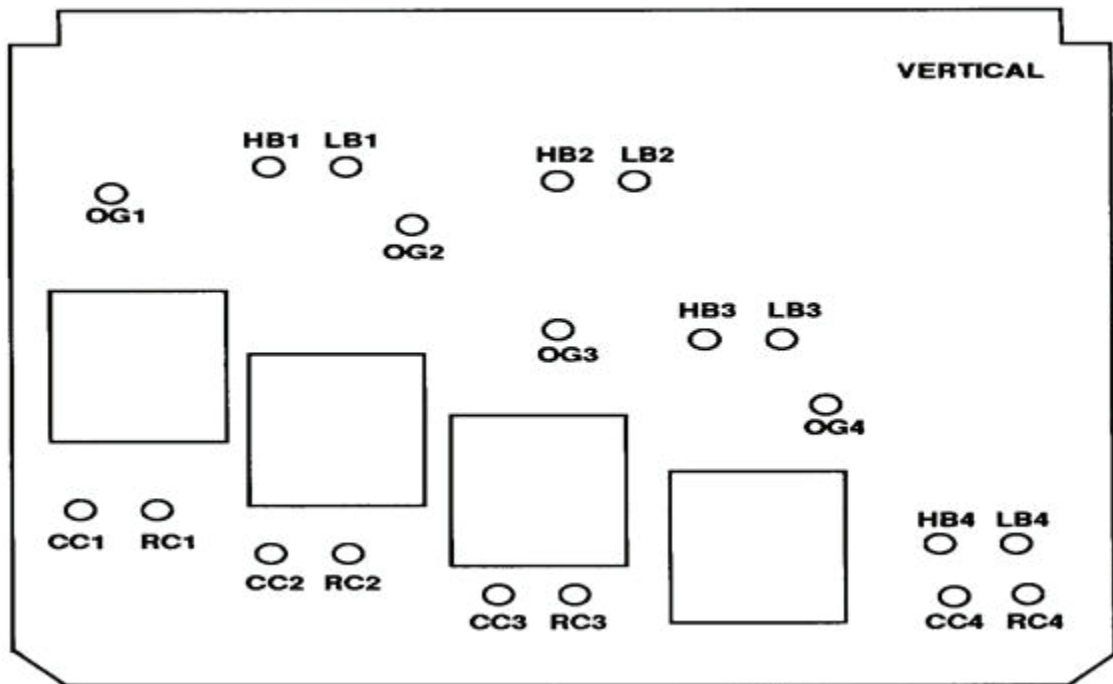
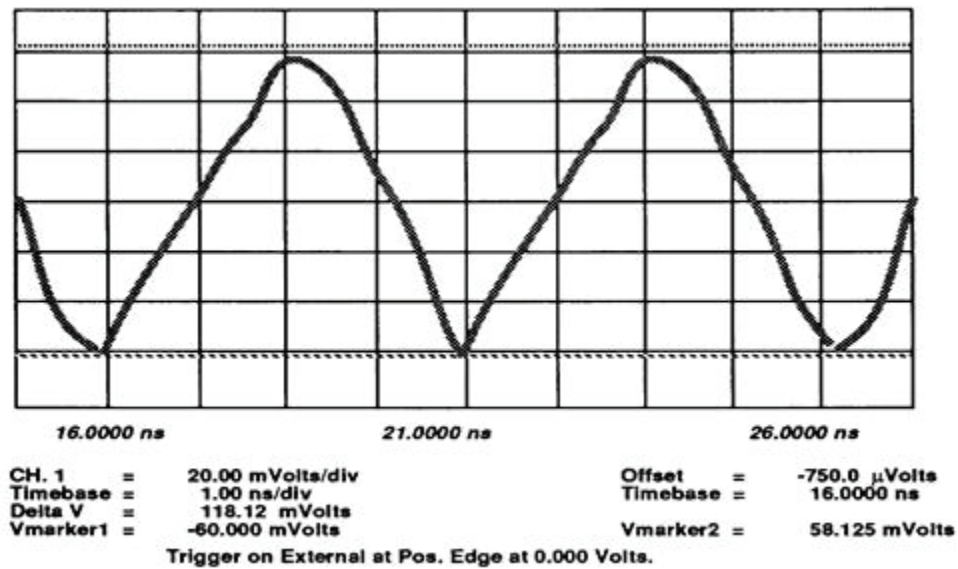
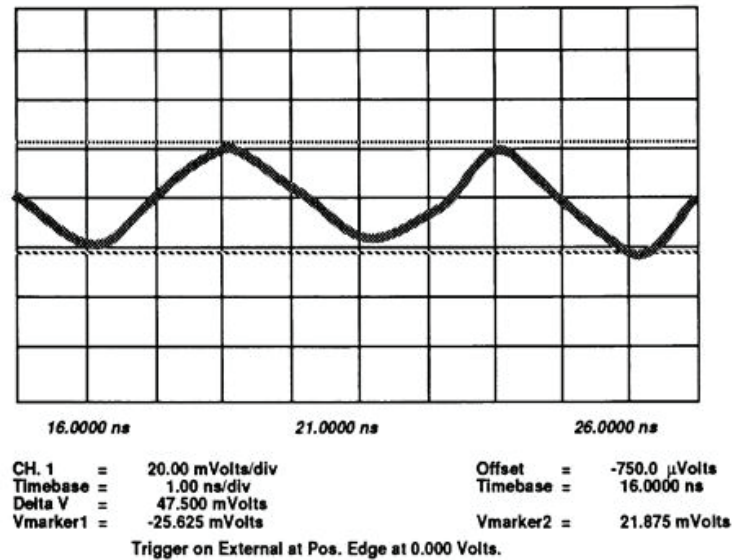

Figure 12. Vertical assembly A2 adjustments.
Figure 16. Low bandwidth adjustment with markers.
Figure 17. High bandwidth adjustment with markers.
d. Preset LB1 and OG1 on the vertical assembly A2 (fig. 12) to mechanical center.
g. Adjust LB1 on vertical assembly A2 (fig. 12) (**Channel 1** low bandwidth) for a signal amplitude of 0 to 100 percent (fig. 16). If signal does not line up with the markers, adjust for equal amounts above or below markers (R).
l. While in the persistence/bandwidth mode, toggle the **BANDWIDTH** key. If TI toggles between 12.4 and 20 GHz perform (1) below; if not, perform (2) below.
(1) Press **Display** key. Press **Display Mode** key until **Persist** is highlighted and set **Persistence = 300 ms** and **Bandwidth to 20 GHz**.
(2) Press **Display Mode** until **Average** is highlighted and press **Bandwidth** to **20 GHz** is highlighted.
n. Adjust HB1 on the vertical assembly A2 (fig. 12) (**Channel 1** high bandwidth) for a signal amplitude to overlay the 30 and 70 percent markers (fig. 17).
q. Repeat **d** through **o** above for **Channel 2** except use LB2 and HB2 on vertical assembly A2 (fig. 12).
- t. Repeat **d** through **o** above for **Channel 3** except use **LB3** and **HB3** (fig. 12) on vertical assembly A2.
- w. Repeat **d** through **o** above for **Channel 4** except use **LB4** and **HB4** on vertical assembly A2 (fig. 12).